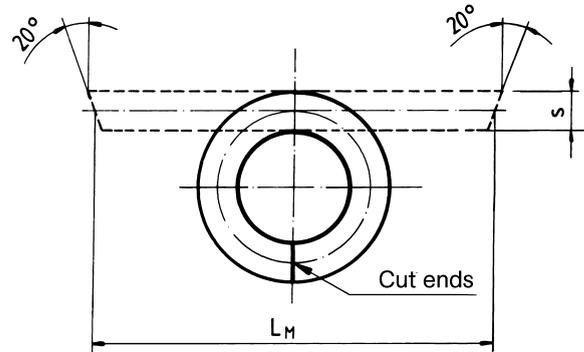

Figure 1: Cutting packing rings to size
**When cutting to size**, we recommend a straight cut perpendicular to the shaft. In order to obtain gap-free, parallel contact of the cut packing ring ends, the cutting angle should be approx. 20° to both cut ends (see Figure 1).